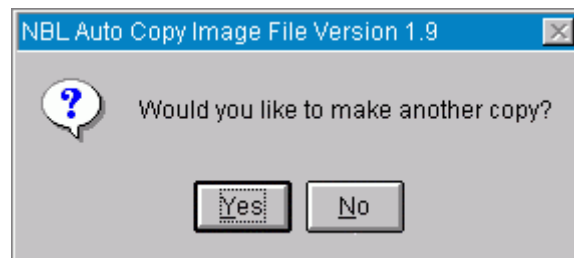

Figure 8
7. Create the remaining seven diskettes, "ESA Firmware 2 of 5", "ESA Firmware 3 of 5", "ESA Firmware 4 of 5", "ESA Firmware 5 of 5", "ESA Power Suite 1 of 3", "ESA Power Suite 2 of 3", and "ESA Power Suite 3 of 3" using the same process for generating the previous diskettes. After all nine firmware upgrade diskettes have been created, the text box shown in **Figure 8** will be displayed.